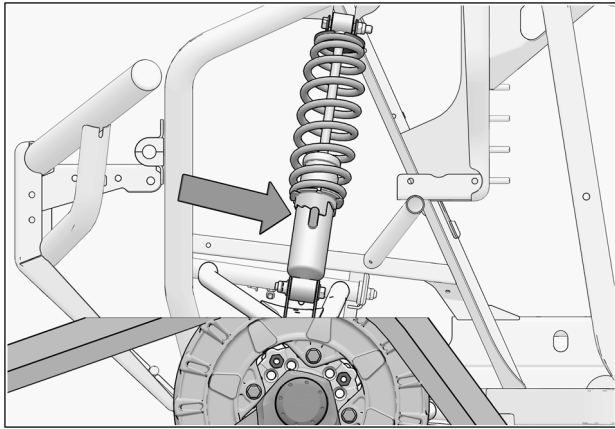

Fig. 26
1. Verify the suspension settings. If the shock absorbers are adjustable, adjust them to the stiffest setting to allow for maximum clearance between the System and the vehicle's fenders. See Fig. 26